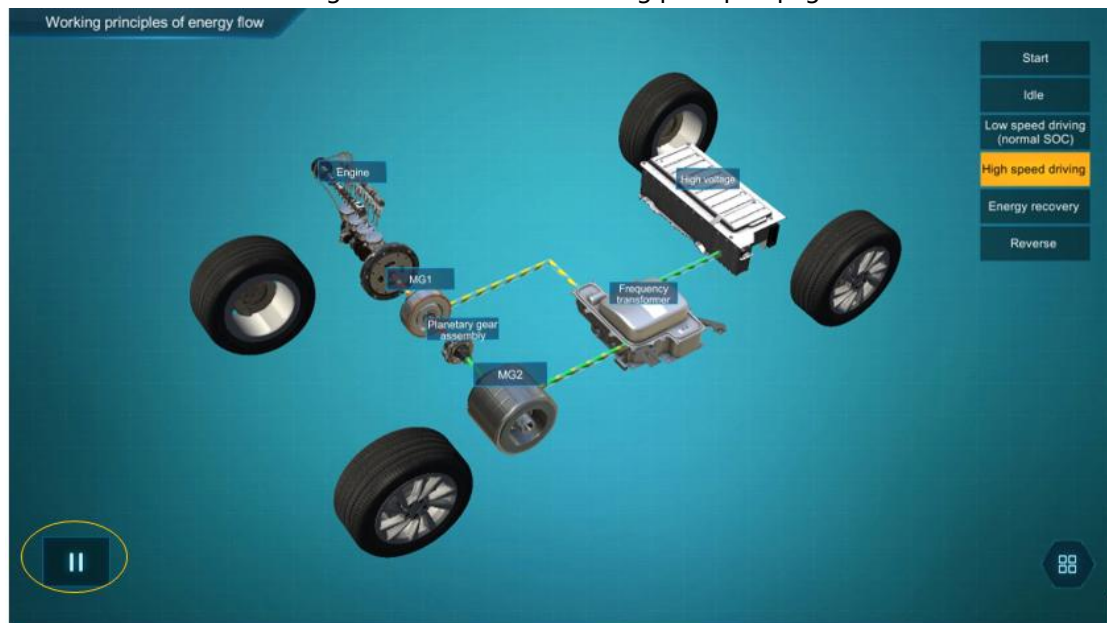

Figure 4-2-5c Working principle of energy flow page
3. See figure 4-2-5c for working principles of energy flow. Press the middle button of the stylus to select the "Start", "Idle" , "Low Speed Driving" , "High Speed Driving" , "Energy Recovery" , or "Reverse" in the right for corresponding demonstration.